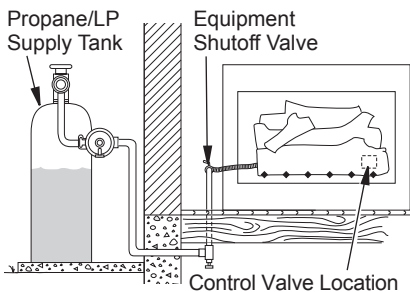

Figure 16 - Checking Gas Joints (Propane/LP Gas Models)
3. Check all joints from gas meter to equipment shutoff valve for natural gas or propane/LP supply to equipment shutoff valve for propane/LP (see Figures 16 and 17). Apply noncorrosive leak detection fluid to all joints. Bubbles forming show a leak.
4. Check all joints from equipment shutoff valve to control valve (see Figures 16 and 17). Apply noncorrosive leak detection fluid to all joints. Bubbles forming show a leak.